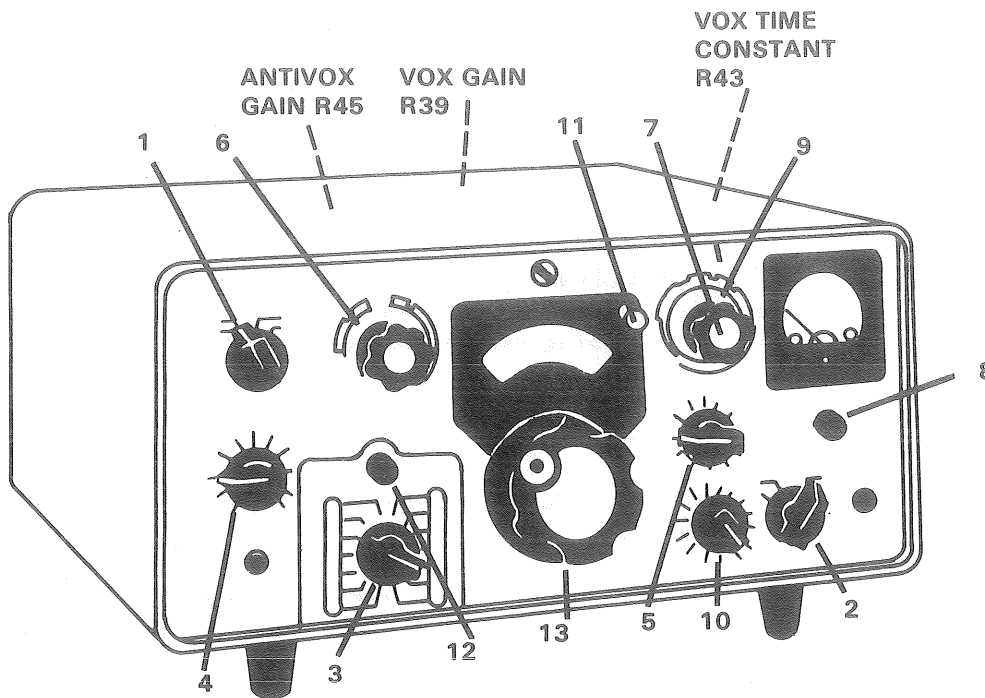

Figure 3. Operating controls for Collins KWM-2A.
2. Perform starting procedures and insure your Receiver RT-718/FRC-93 (KWM-2/2A) is correctly tuned. (Refer to fig 3 for operator controls.) Follow these steps to properly tune the receiver: (Refer to TM 11-5820-554-12, para 3-9 thru 3-11.)
- k. Return FUNCTION switch (1) to the ON position and tune dial to desired frequency.
3. Insure your Transmitter RT-718/FRC-93 is properly tuned by utilizing the operating controls as shown in figure 3. Follow these steps to tune the transmitter. (Refer to TM 11-5820-554-12, para 3-9 thru 3-12.)
- a. Set EMISSION switch (2) to TUNE position. Set P.A. TUNING control (7) to white portion of dial indicating the desired band for amateur operation.
- n. Set EMISSION switch (2) to desired operating position.
4. Follow these steps to adjust Radio Set AN/FRC-93 for operation in the voice mode: (Refer to fig 3, and TM 11-5820-554-12, para 3-12b.)
- f. Set FUNCTION switch (1) to ON position. The radio set is now ready for voice operation in SSB service.
5. Follow these steps to adjust Radio Set AN/FRC-93 for operation in the CW mode: (Refer to fig 3, and TM 11-5820-554-12 para 3-12c.)
- a. Connect CW key to RT-718/FRC-93. Place EMISSION switch (2) to CW position.
- b. Press key and adjust A.F. GAIN control (5) for comfortable monitoring level.
- d. Set METER switch (8) to ALC while sending a series of dots; adjust MIC GAIN control (4) for S3 meter reading of ALC.
- e. When receiving, leave the A.F. GAIN control (5) set for comfortable monitoring level and adjust the received signal with the R.F. GAIN control (10).